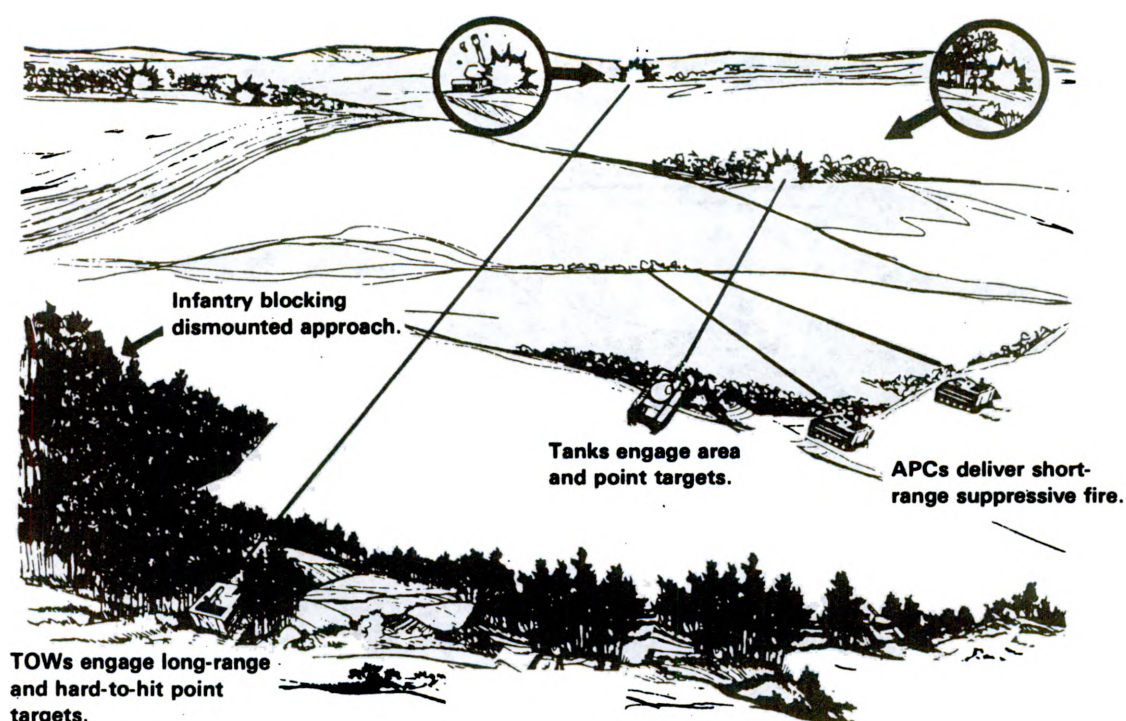

Figure 2
(2) Integrate TOW fires with other antiarmor weapons. Position TOWs within range of other antiarmor weapons so they can support each other by fire when under mounted attack. TOWs and tanks should be positioned to provide long-range coverage along the high-speed avenues of armor approach to insure that continuous antiarmor fires are delivered on attacking enemy forces. Dragons and LAWs should be positioned along the armor approaches with more restricted fields of fire to allow TOWs to engage the long-range targets and to add depth to the defensive area.
(3) Integrate TOWs with nearby infantry for security. TOW crews by themselves are extremely vulnerable to attacks by mounted as well as dismounted infantry. To provide security against such attacks, TOWs should be positioned to take advantage of infantry blocking dismounted and concealed mounted approaches leading to TOW positions (fig. 2).